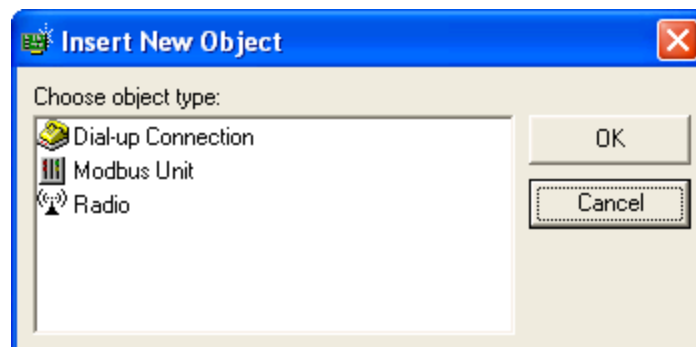

Figure 44 - Insert New Object
- The **Insert New Object** window (Figure 44) appears.